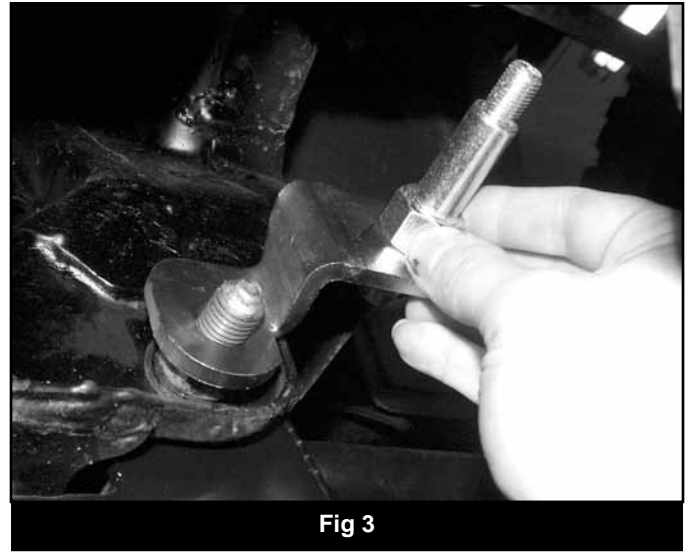

Fig 3
5. Install the bracket on the bolt so the tab goes to the outside and the shock studs points to the rear. (Fig 3) Fasten with the original nut/washer and torque to 125 ft-lbs.